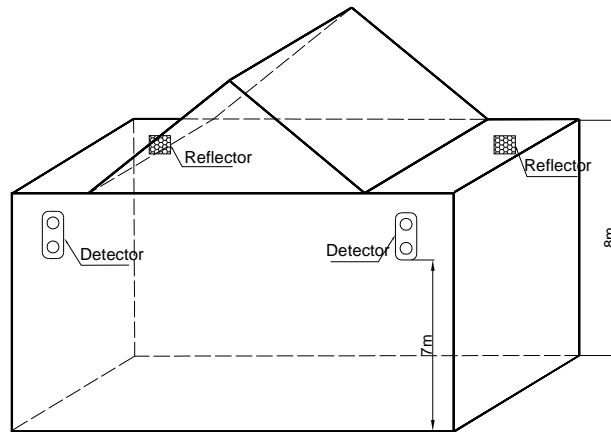

Fig. 6
c) When space height is more than 8m, the roof is normally gabled without ceiling, the detector and reflector should be mounted on the two facing walls about 8m from the floor, ensuring that the vertical distance between the detector/reflector and top of the building is not less than 0.5m, as shown in Fig. 6. The distance should be 7m from the detector to the floor.